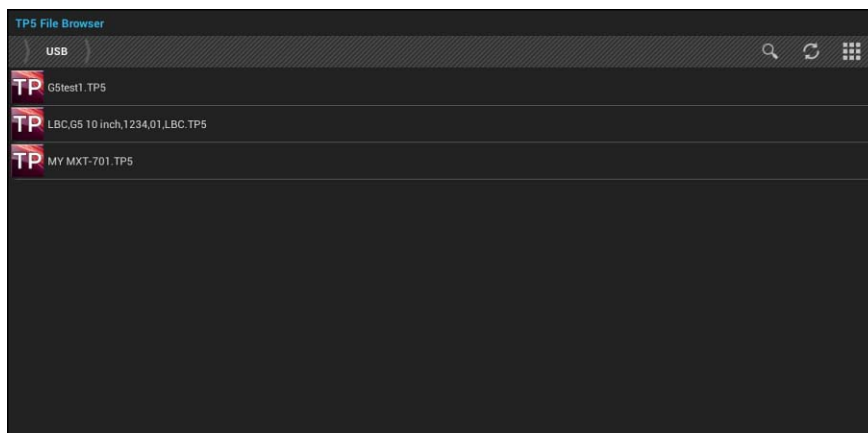

FIG. 138 TPDesign5 File Browser window
3. In the *Reset & Update* window, press **Install Pages from External Disk** (under PANEL PAGES) to open the *TP5 File Browser* window. All TP5 files found on the USB drive are listed (FIG. 138):.